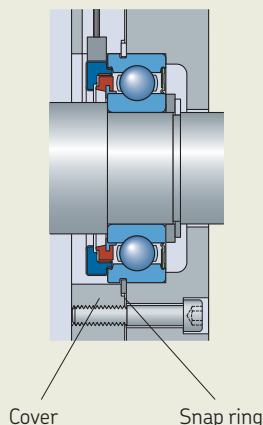

Fig. 12
- with a spacer sleeve and a snap ring in the housing (fig. 12)